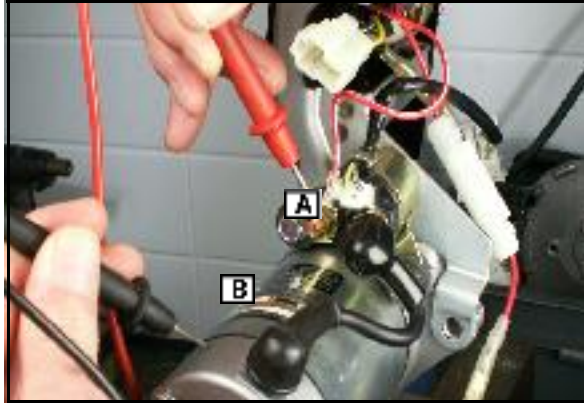

Fig. 57
2. Check for continuity at the input side (A) of the solenoid and ground (B) Fig. 57).
- Digital Multimeter #19464 (E).
- DC Shunt #19468 (D) Fig. 57)